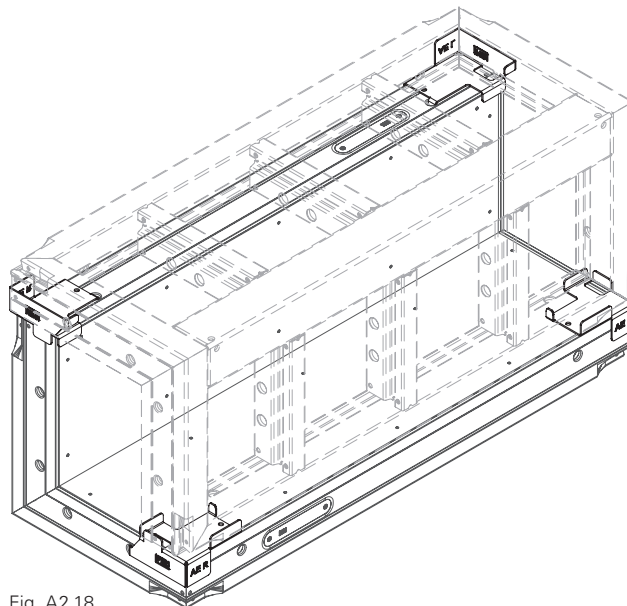

Fig. A2.18
- two outside corners. (Fig. A2.18)